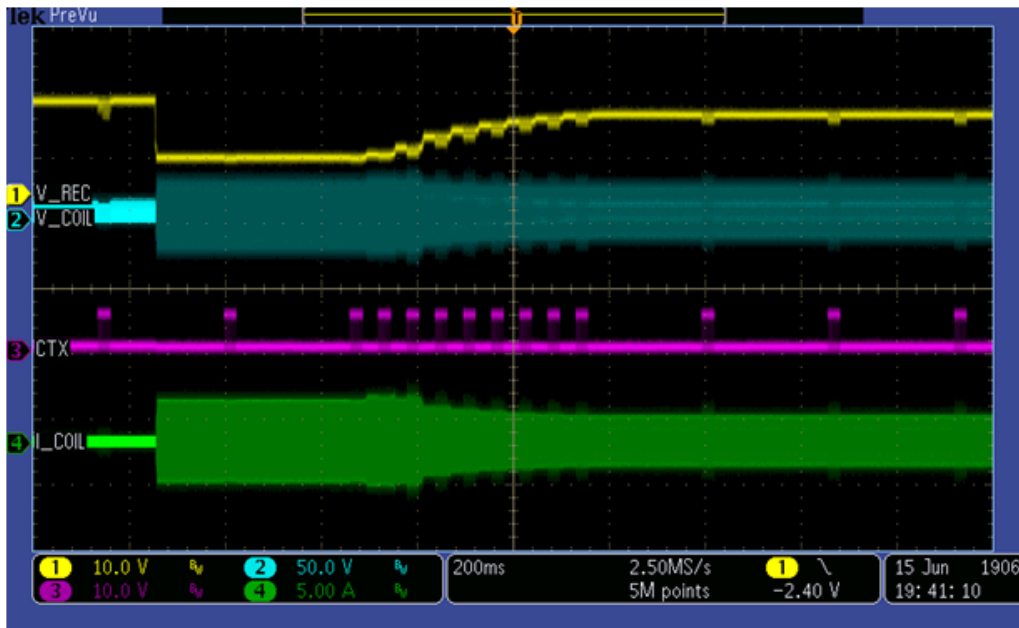

Figure 26. System response for a 3 A load
- System response measurement for a 3 A load is shown in Figure 26.